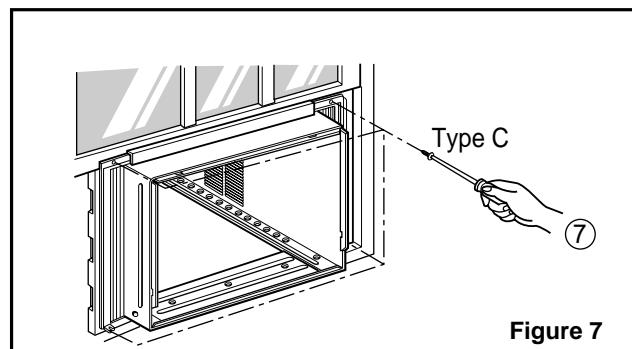

Figure 7
9. Attach each Frame Curtain to the window sash by using screws ⑦ (Type C). (See Figure 7)